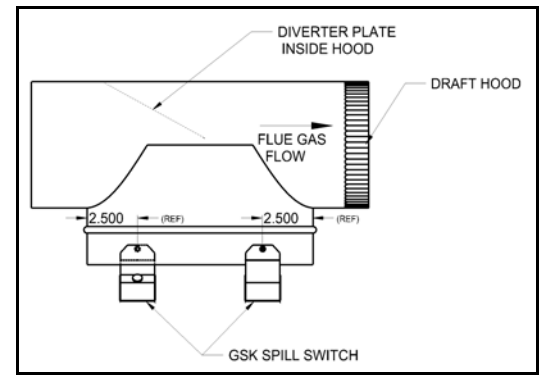

Figure 1
IN-LINE HORIZONTAL DRAFT HOOD (See Figures 1 & 2)
1. Two (2) switches are recommended on these hoods. Mount the switches approximately 2 1/2 inches from the opposite ends and sides of the draft hood opening. (See Figure 1)